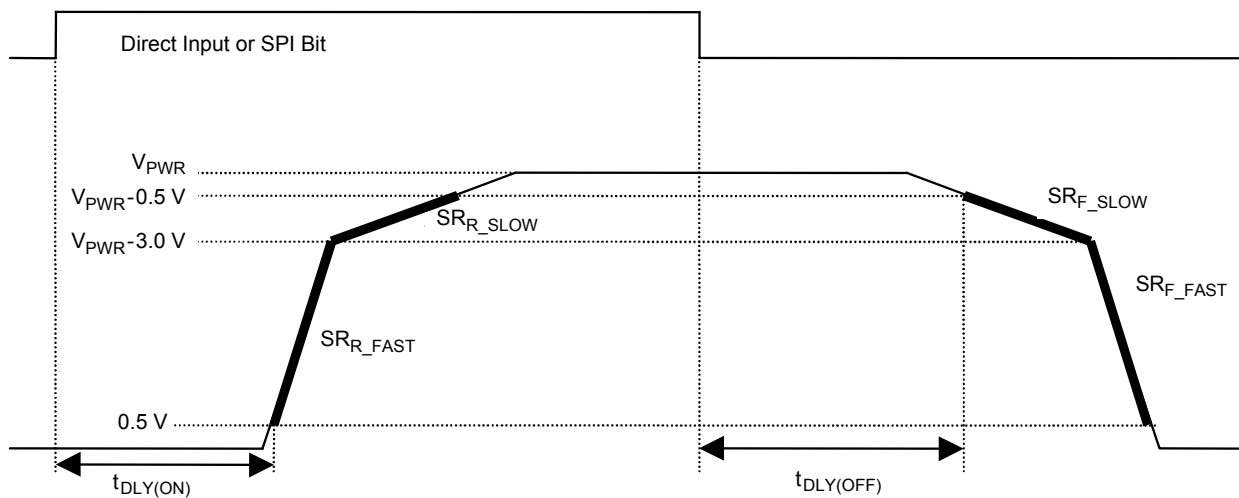

Figure 2. Output Slew Rates and Time Delays, High Side
27. High-side output rise and fall fast slew rates measured across a $5.0\ \Omega$ resistive load at high-side output = 0.5 V to $V_{PWR}-3.0\text{ V}$ (see Figure 2, page 18). These parameters are guaranteed by process monitoring.
28. High-side output rise and fall slow slew rates measured across a $5.0\ \Omega$ resistive load at high-side output = 0.5 V to $V_{PWR}-3.0\text{ V}$ (see Figure 2, page 18). These parameters are guaranteed by process monitoring.
29. High-side output turn-ON delay time measured from 50% of the rising IHS to 0.5 V of output OFF with $R_L = 27\ \Omega$ resistive load (see Figure 2, page 18).
30. High-side output turn-OFF delay time measured from 50% of the falling IHS to $V_{PWR}-2.0\text{ V}$ of the output OFF with $R_L = 27\ \Omega$ resistive load (see Figure 2, page 18).